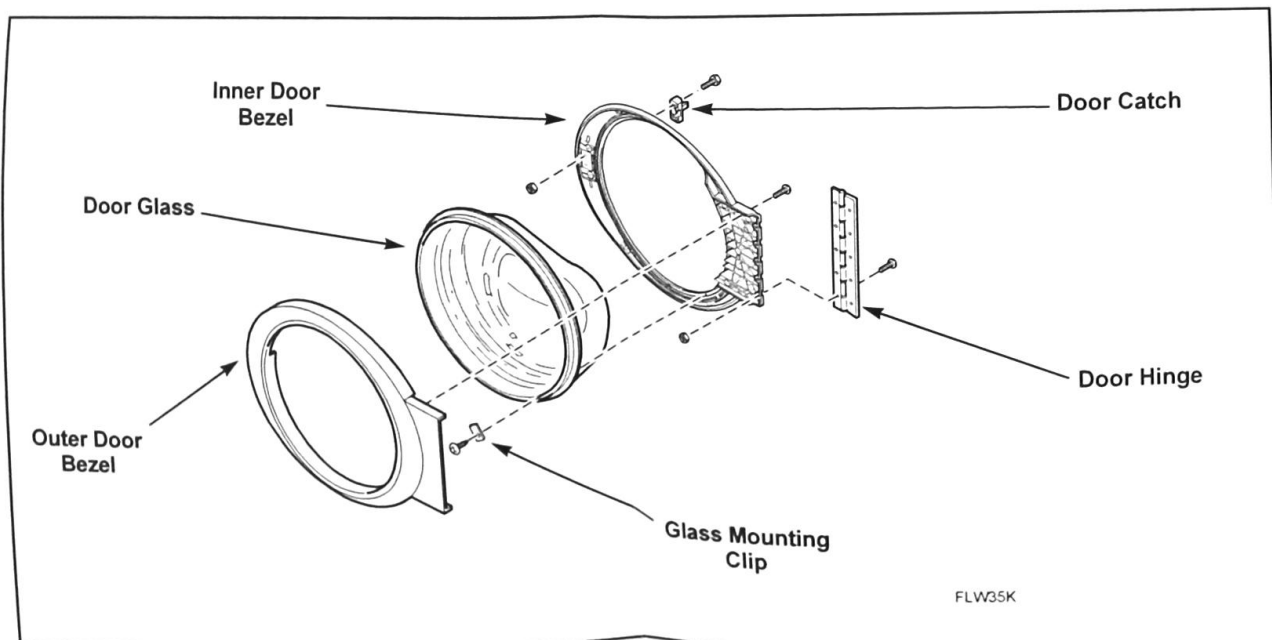

Figure 2
2. Remove screws and glass mounting clips holding door glass to inner bezel. Refer to *Figure 2*.